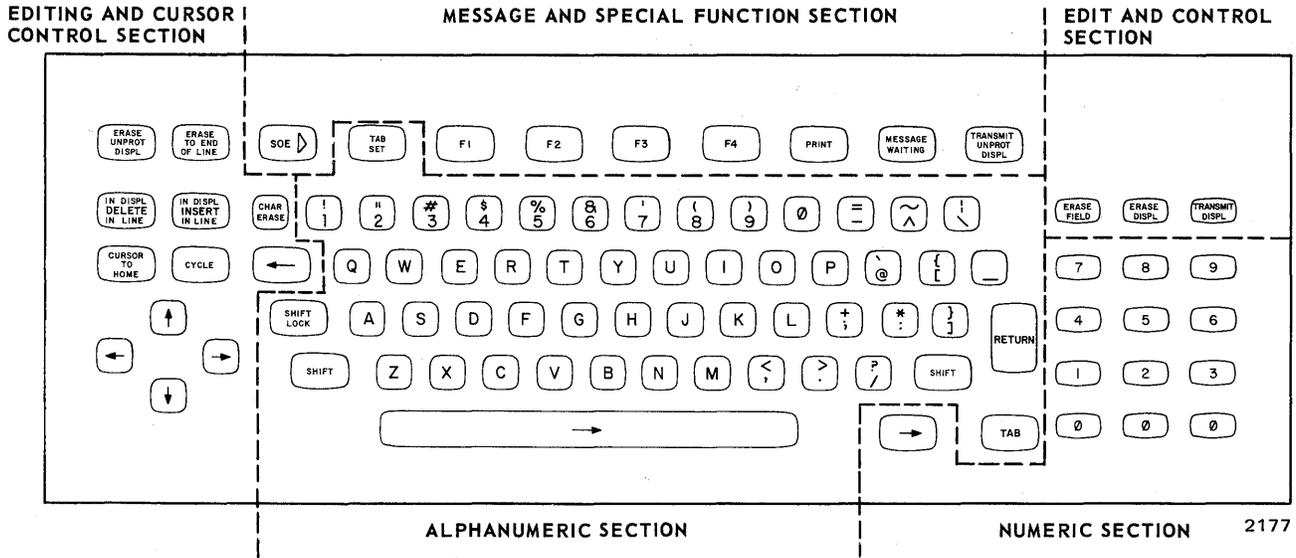

Figure 2-1. UNISCOPE Terminal Keyboard, Functioning Sections
These keys (Figure 2-1) are used to control the location, transmission, and reception of messages. The function of these keys is described in Table 2-1.
The operator uses the nine cursor control keys (Figure 2-1) when composing or editing messages on the screen. These keys are described in Table 2-1.
The editing keys (Figure 2-1) are used by the operator to correct or change data that has been input from the keyboard or received from the processor. Processor-stored data is not changed when the display is edited; the changed data must be returned to the processor with instructions to change the file data as indicated in the edited transmission. The function of these keys is described in Table 2-1.
1. Using the keys on the keyboard and observing the results on the screen, compose the data to be sent to the processor. This information is generated by the operator by using the alphanumeric, numeric, or special keys on the UNISCOPE terminal (Figure 2-1). As the keyboard keys are pressed, the alphanumeric or symbolic character generated by the key is simultaneously displayed on the screen and stored in the UNISCOPE terminal storage. The entry is made at the location marked by the cursor, and the cursor advances one position for each character or space entered on the screen.